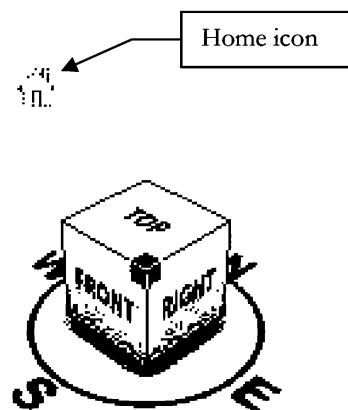

FIGURE 1-5.5 ViewCube
11. You should notice the **ViewCube** in the upper right corner of the drawing window (Figure 1-5.5). If not, you can turn it on by clicking *View* → *Windows* → *User Interface* → *ViewCube*.